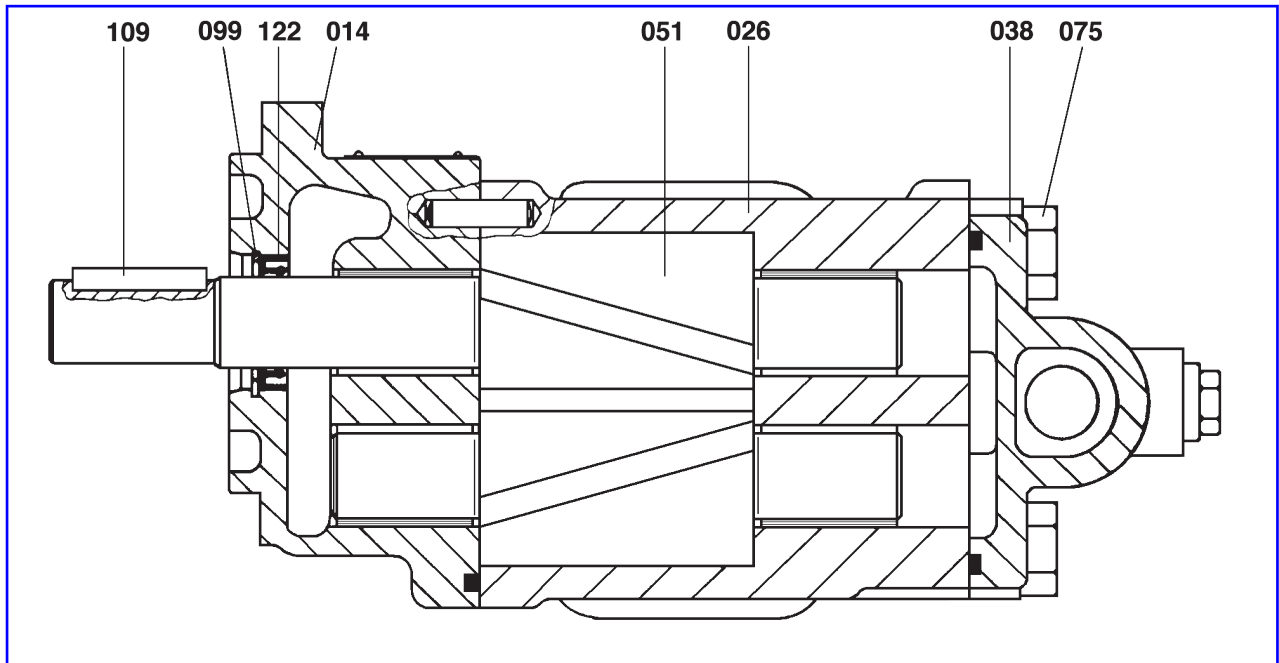

Figure 1: Prelubricating Pump
- 4) Remove the coupling part and key (109), see fig. 1, from the driving gear shaft (051).
- 5) Loosen screws (075) and take off the pressure control valve (038).
- 6) Tighten the pump to the flange. Pressure control valve (038) upwards.
- 7) Take off the gear box (026), if necessary use a soft hammer for separation.
- 8) Remove the gear wheels from the cover (014). Dismounting is only possible by disturbing the rotor shaft seal and by breaking the bearing bush.
- 9) Remove the security ring (099) and take off the rotary shaft seal (122).
- 11) Gear box (026). Dismounting is only possible by damaging the shaft bush. Press out the shaft bushes.
- 12) Pressure control valve (038). The pressure control valve can be dismantled also without dismantling the pump.